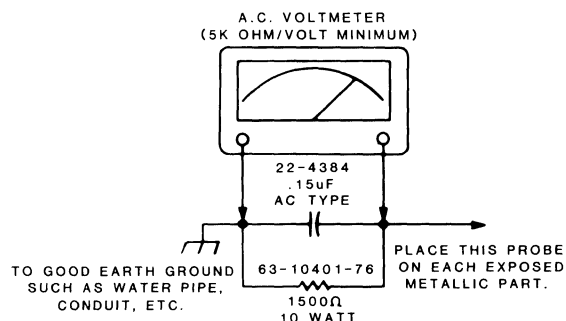

Figure 1
Any leakage voltage measurement that exceeds 0.75 volts rms (0.5 milliamperes AC) constitutes a potential shock hazard and must be corrected. These voltage and current values are based upon the following test meter circuit (Figure 1) and the following test instructions.
1. Connect the test circuit as shown in Figure 1.